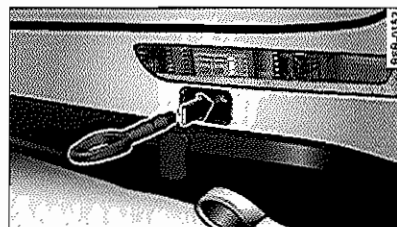

Fig. 244 Rear bumper:
- Screw the towing loop tightly into the threaded hole as far as it will go ⇒ fig. 244.